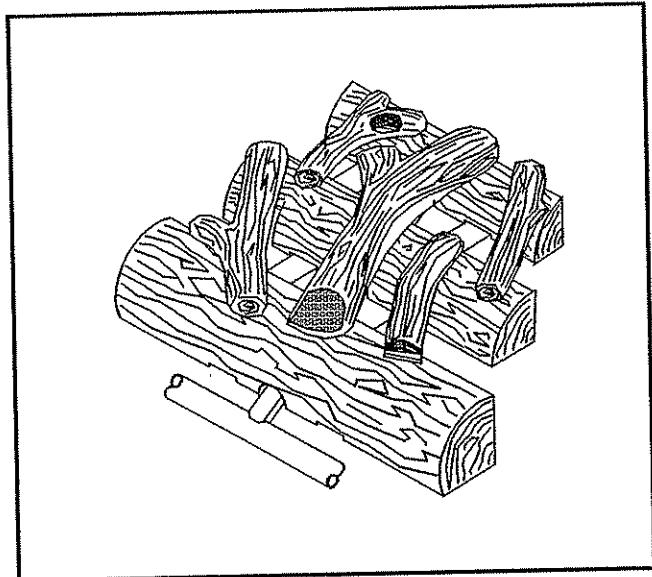

Fig. 42. Bottom and top log positioning.
9). Position the five (5) top logs on the bottom logs making sure the pins on the bottom logs fit into the holes on the underside of the top logs. Make sure the rear flame comes up and through the hole in the left top rear log. (See Fig. 42.)